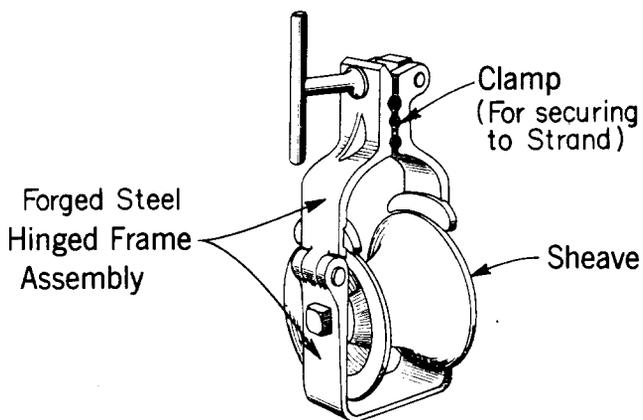

Fig. 2—H Cable Block
3.03 **H Cable Block:** The H cable block (Fig. 2) supersedes the one-sheave cable block and is used to pull cable toward or away from corner poles and any other location where a single block is required.